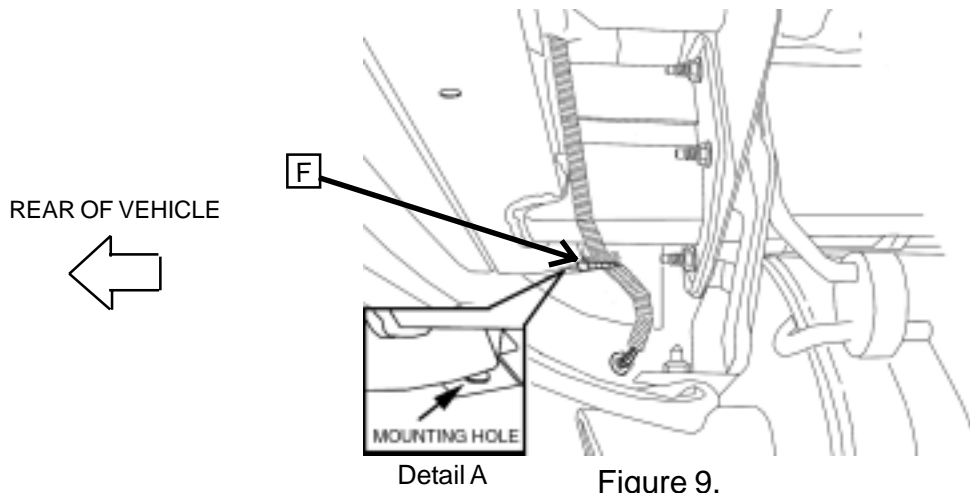

Figure 9.
- 1.) While removing cable slack, wrap one cable tie [F] through the mounting hole at the end of the bumper beam shown in Detail A of Figure 9 and around the sensor cable marked "L" then tighten (Figure 9.).